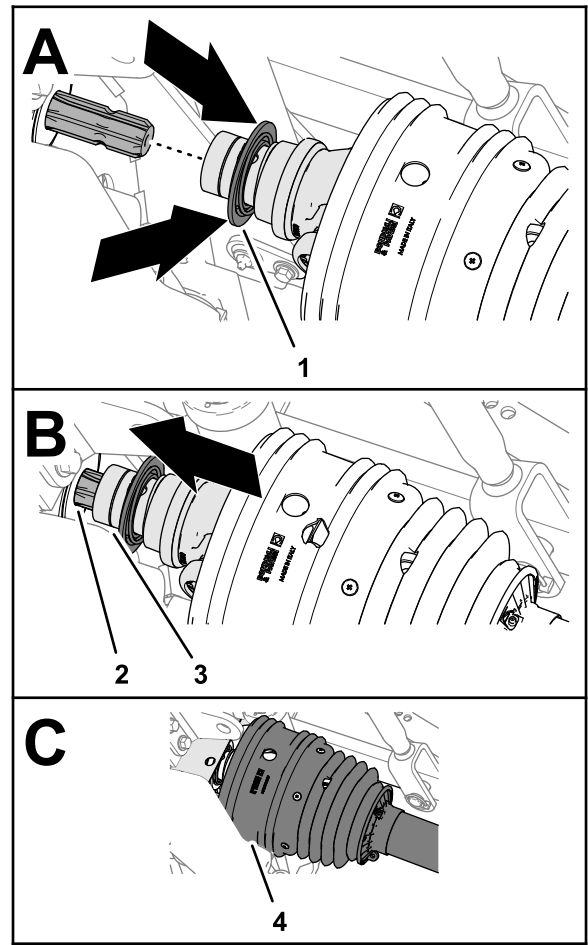

Figure 25
2. Pull back the lock collar of the quick-connect coupling (Figure 25).
3. While pulling back the lock collar, pull the PTO drive-shaft yoke forward and slip the socket of the coupling over the splines of the PTO output shaft (Figure 25).
5. Ensure that the shield is positioned over the drive shaft yoke (Figure 25).